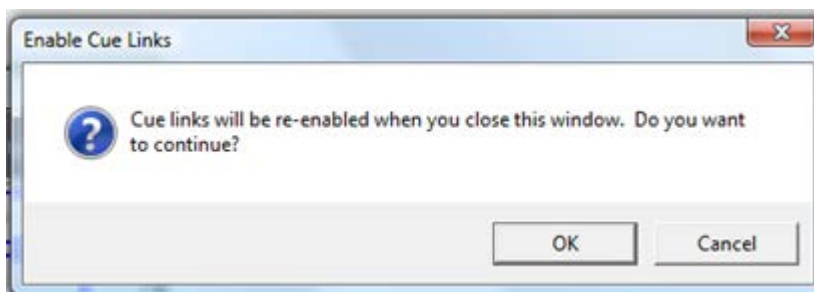

Figure 268
6. Click **OK** in the **Enable Cue Links** dialog box to re-enable all cue links (Figure 268). *If the motors have NOT finished moving, click **Cancel**.*